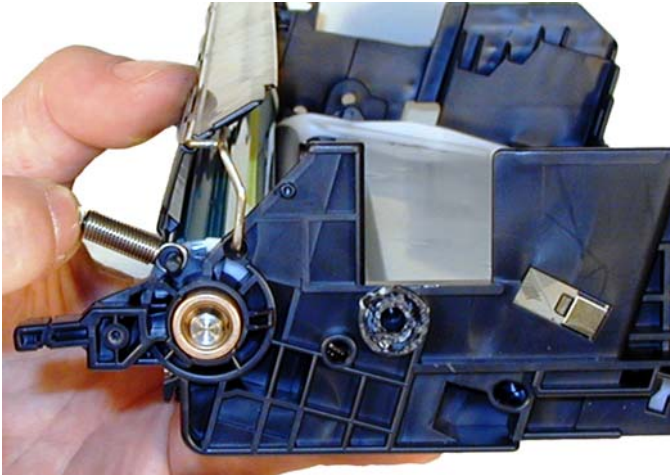

Figure 16
5) Remove the spring so it does not get lost. See **Figure 16**